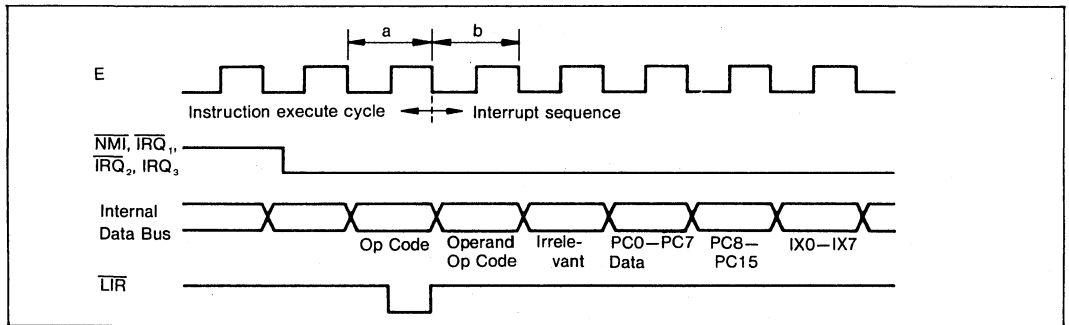

Figure III-13. Last Cycle Before Interrupt
1. Last instruction execution cycle just before the interrupt sequence (figure III-13).
- The first cycle of the interrupt sequence (b in figure III-13) is a dummy fetch cycle. In this cycle, there are two cases; an operand is on the data bus, or an opcode is on the bus. In both cases,  $\overline{\text{LIR}}$  output is not low.